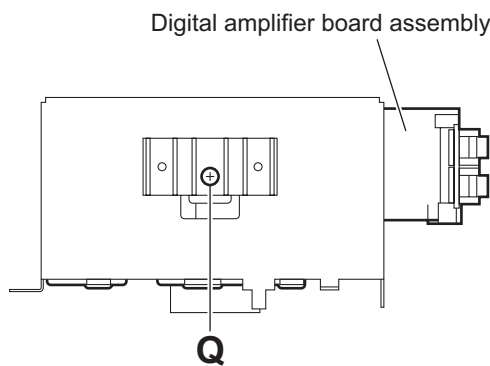

Fig.17
3.1.8 Removing the digital amplifier board (See Figs.17 to 22)
- (1) From the forward side of the digital amplifier board assembly, remove the screw **Q**. (See Fig.17.)